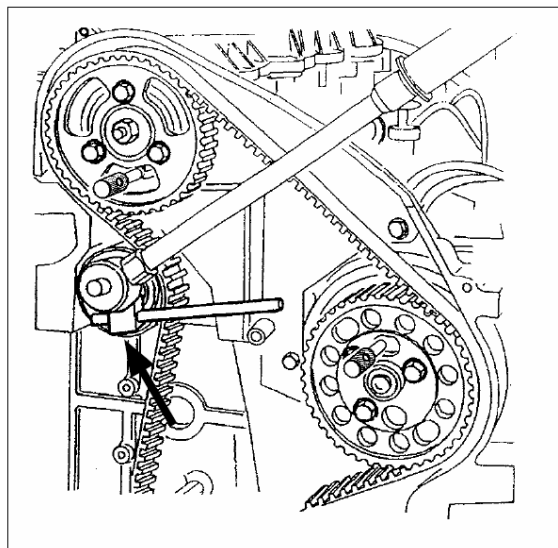

Fig. 2
- This tool is needed in order to turn the tensioner and hold it in place while tightening the central bolt (23 Nm)(Fig. 2).